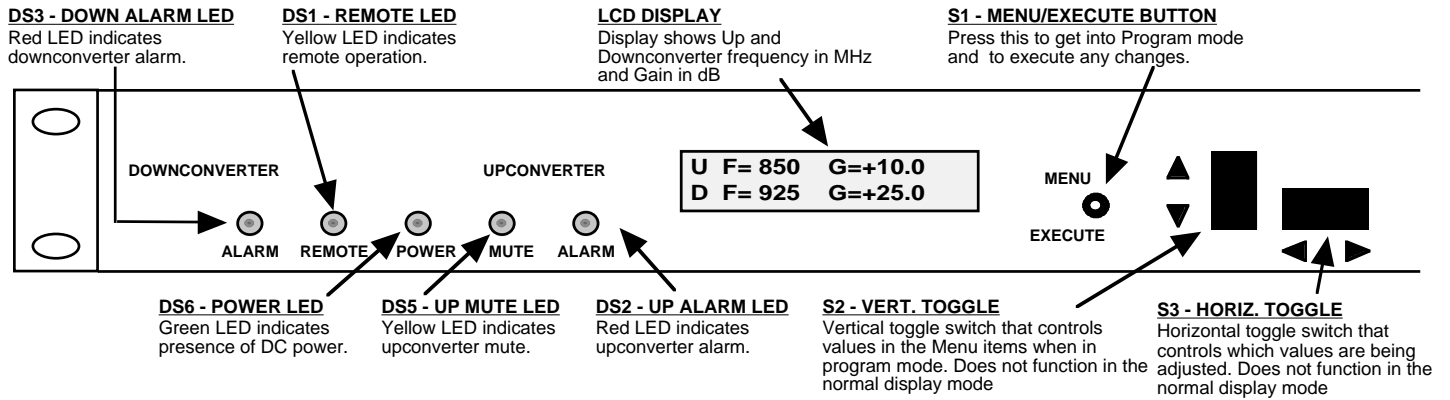

Figure 2.2 Model 2017-81 Front Panel Controls and Indicators
- 8.) Be sure DS6 (green, DC Power) is on and DS2 (red, Alarm) is off (Figure 2.2).
- 7.) Be sure DS6 (green, DC Power) is on and DS2 (red, Alarm) is off (Figure 2.2).
Alarm indications appear on the LEDs (see figure 2.2).